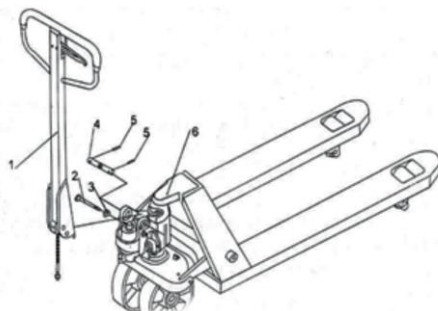

Fig.5
- c) Press the tiller arm down; take away the pin (2, Fig. 5).
- d) Set the control lever of the handle to 'RAISE' position, then raise the lever plate with the pin (2, Fig. 5) and insert the adjusting bolt into the front slot of lever plate. Note: Keep the adjusting nut under the lever plate.
- e) Use a hammer to insert the 2nd dowel pin (5, Fig. 5) into the 2nd hole of the axle. The tiller arm is now assembled to the pump.